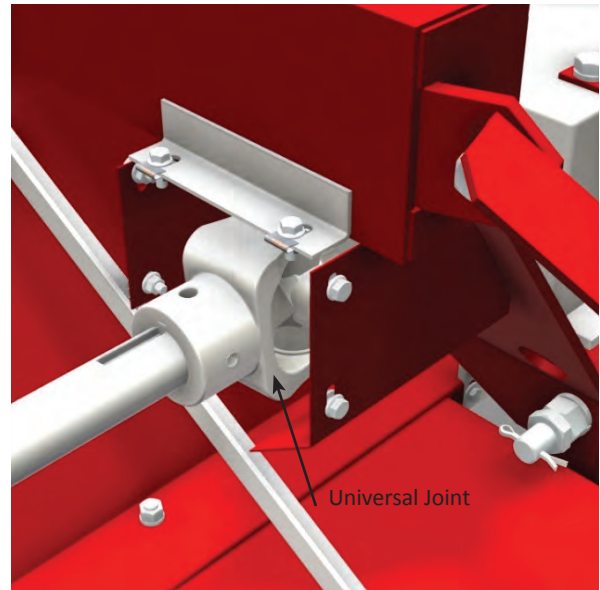

Figure 14: Output Shaft Universal Joint
4. Output shaft universal joint located under the output shaft guard, see Figure 14.